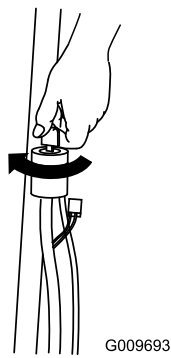
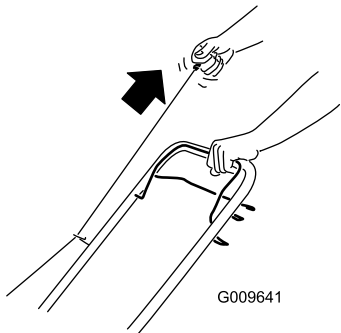

Figure 10
Figure 11
2. Turn the ignition key (Figure 10) or pull recoil start handle (Figure 11).